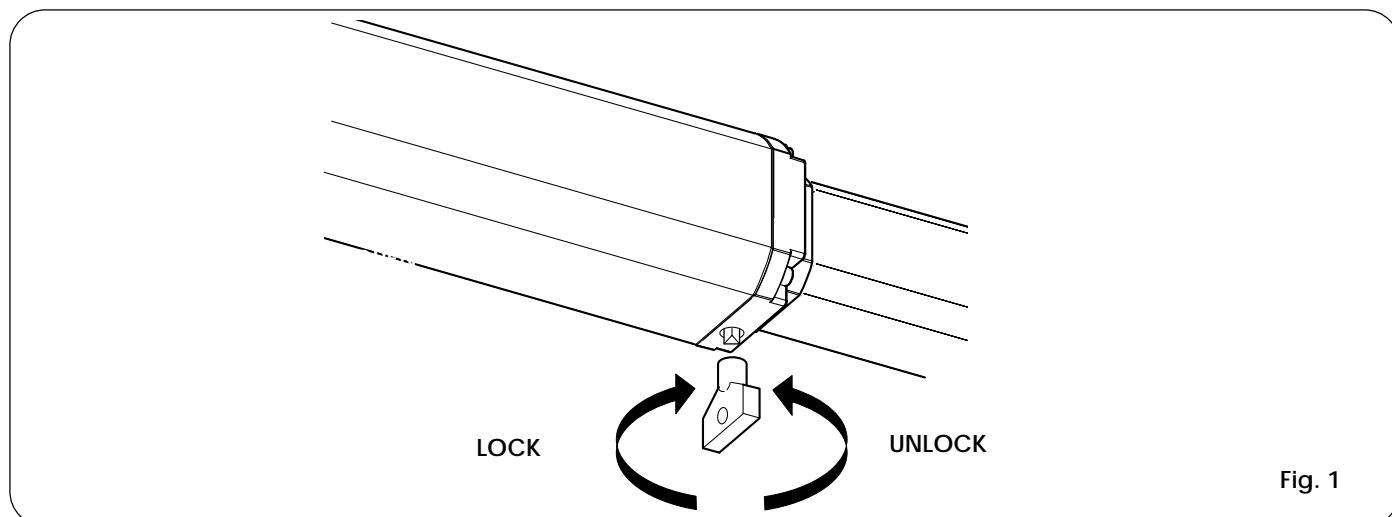

Fig. 1
- Insert the triangular key on the release screw located in the lower part of the flange (Fig.1).
- To re-lock the operator, turn the key clockwise until it stops (Fig. 1).